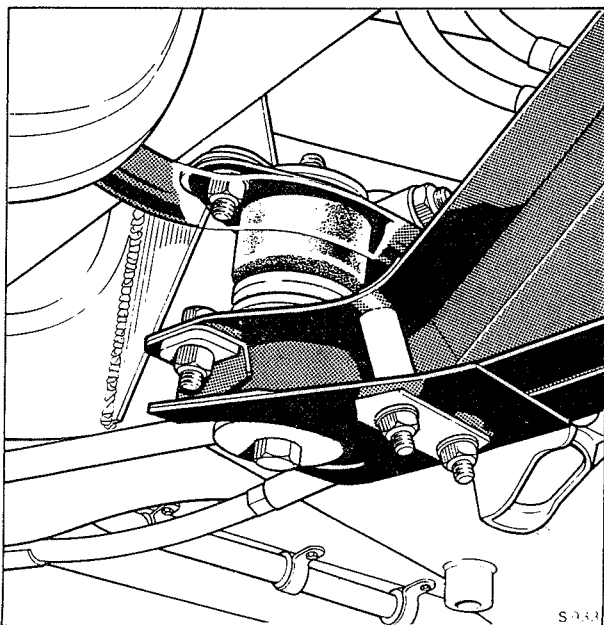

Fig. J12 Torque arm front mount
2. It is essential that the heavy duty washers and strengthening pieces are fitted to the front mount (see Fig. J12).